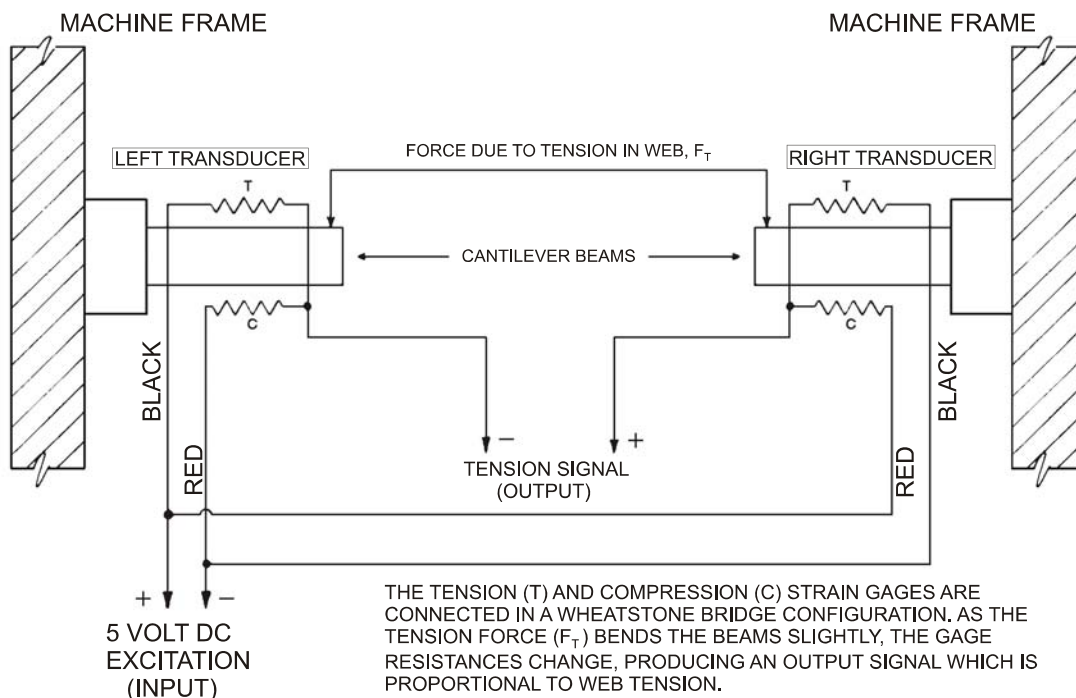

Figure 3 - STRAIN GAUGE CONNECTIONS
1.3 ELECTRICAL OPERATION (see Figure 3)